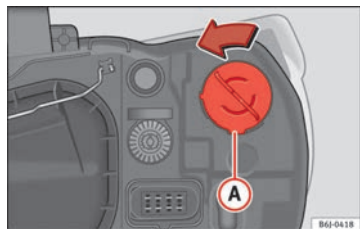

Fig. 157 Single turn signal lamp.
- Turn bulb holder ⇒ Fig. 157 -- to the left and pull.